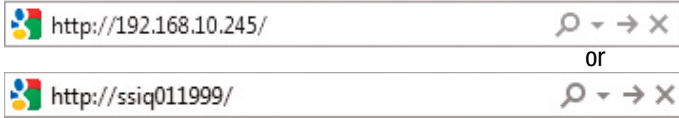

Figure 1
2. Open a web browser. Enter the IP address for your system controller (#4 on page 18) as `http://xxx.xxx.xxx.xxx` or `ssiq` plus last six digits of MAC address if DHCP is Enabled in the web browser's Address field (Figure 1). Press the **Enter** key.